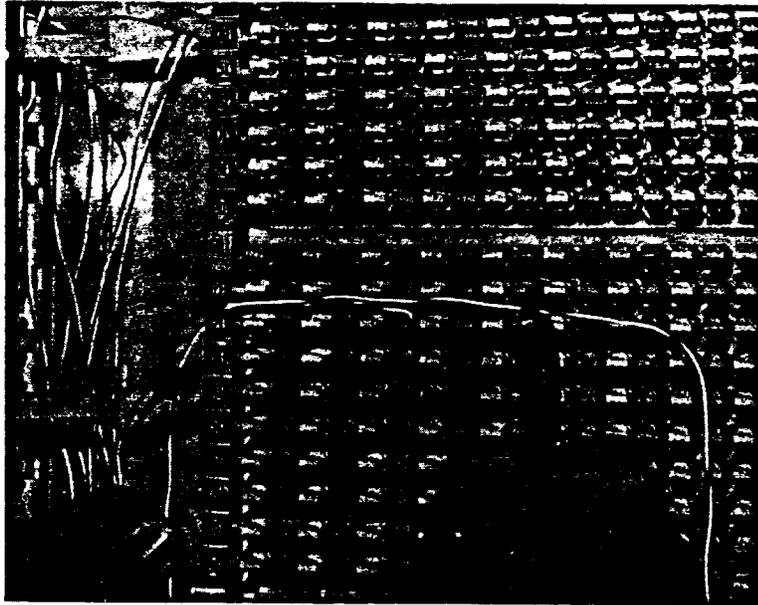

Figure 20. Cutting Cross-Connecting Wire
- (1) Place cross-connecting wire through the wiring slot, form a finger loop, and dress the wire to the rear of the trough. ***Finger loops allow a sufficient amount of slack for movement of the cross-connecting wire for tracing.***
5.05 Cut and terminate cross-connecting wire as follows (Figure 20):